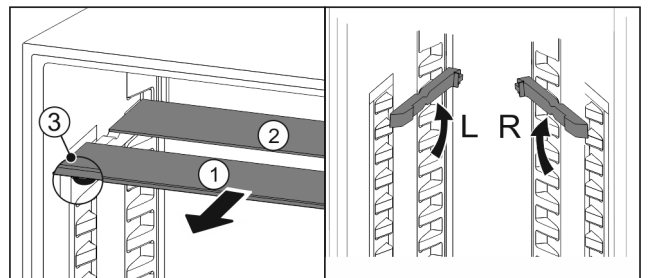

Fig. 114
- ▶ Pull the glass panels out Fig. 114 (1) from the front, one at a time.
- ▷ The glass panel Fig. 114 (1) and trim strip are at the front.
- ▷ The stops Fig. 114 (3) point down.